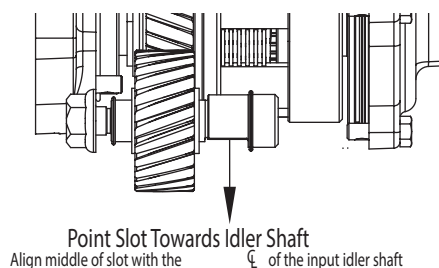

Figure 8 - Intermediate Shaft Positioning
16. Tap the intermediate shaft (37) into the PTO housing (23) and secure using the hex nut (25) and torque to 18-25 ft.lb. The intermediate shaft (37) has a groove cut-out and needs to be positioned towards the aperture opening to allow clearance from the input gear. See Figure 8.